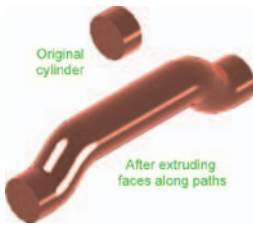

Fig. 18.5 First example – Extrude faces tool
First example – Extrude faces tool (Fig. 18.5)
8. Add lights and a material and render the 3D model (Fig. 18.5).